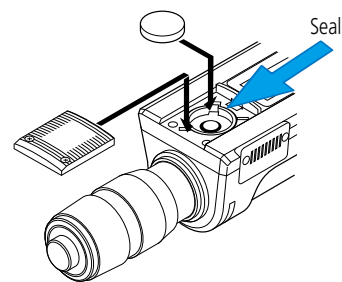

Fig. 2
8. When replacing the battery cap, make sure that the seal is properly seated. (Fig. 2)